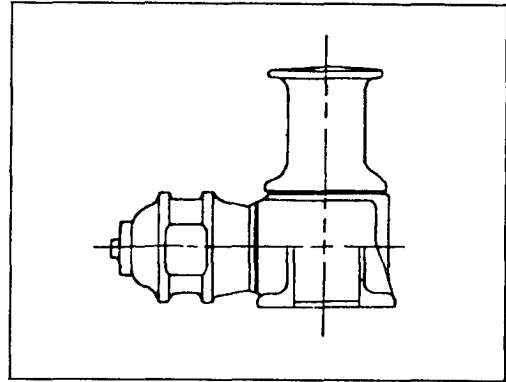

Figure 9-6. Power Capstan
f. Power capstan (Figure 9-6). Power capstans are vertical drums operating on spindles. They are used to pull long, large wire-rope lines, especially when the lines are attached to dolphins. Capstans operate electrically or by air.